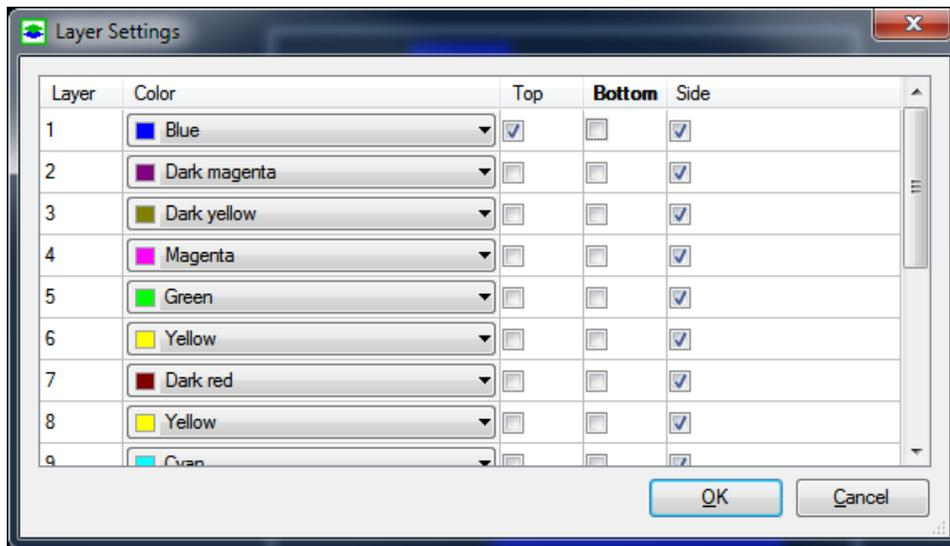

Figure 3.3. The Layer Settings dialog box
- *Color*: click on the  button to open the Layer Settings dialog box (Figure 3.3), where you can define the color and the visibility of the top, side, and bottom of